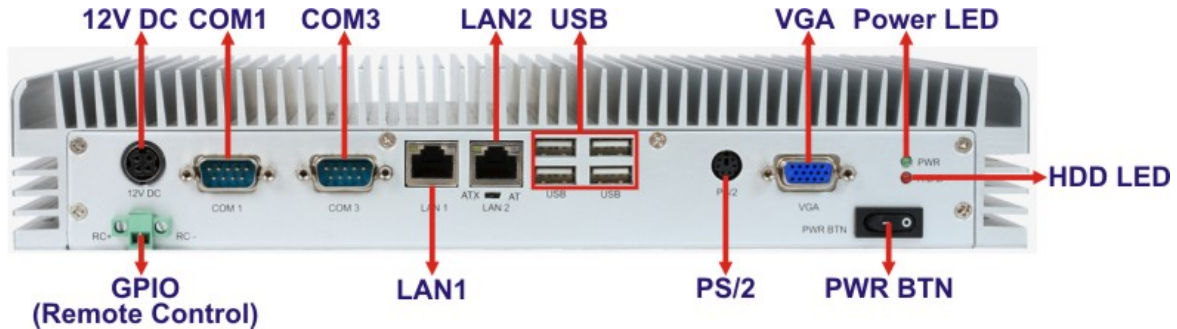

Figure 3-7: Peripheral Connectors (Rear)
- CN Location:** See **Figure 3-7**
- CN Location:** See Figure 3-7
| CN Location: | See Figure 3-7 |
Step 1: **Locate the DB-9 connector.** The location of the DB-9 connector is shown in **Figure 3-7**.